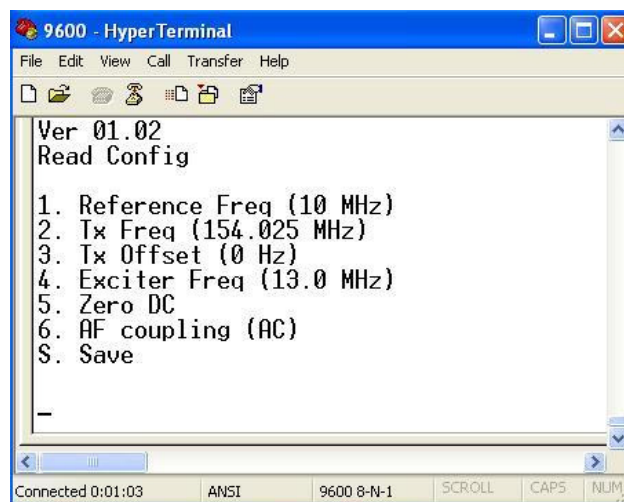

Figure 5. HyperTerminal – Menu.
8. On the SB2025 base station, switch on the power and, on the PC, check that the following HyperTerminal menu as shown below in **Figure 5** is displayed.